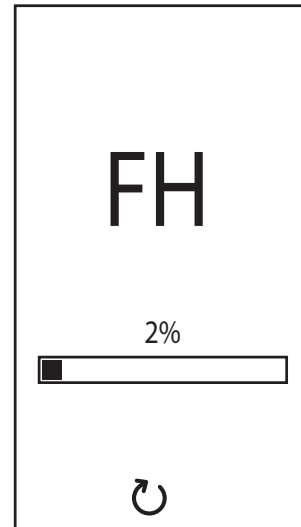

fig. 7- Vent with fan on
- For the next 120 seconds the display will show **FH** which identifies the heating system air venting cycle (fig. 7).